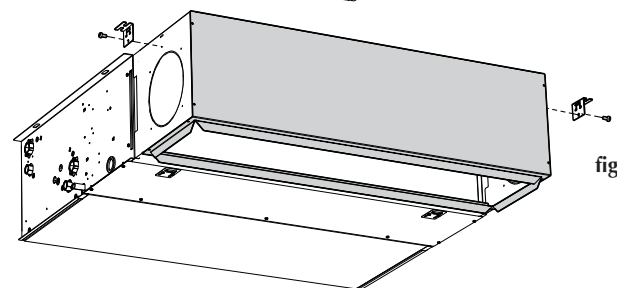

fig.12
- Use cutting nippers to remove the four junction points of the sheet metal push-out element (fig.12)